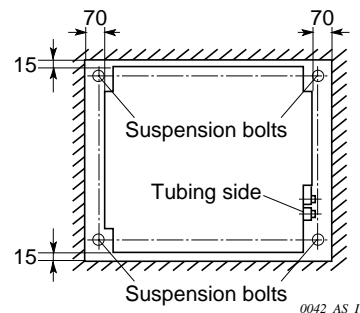

Fig. 3-8
- (3) The distance between the unit and the ceiling opening, and the distance between the bottom face of the ceiling material and the bottom face of the flange of the unit should follow the dimensions given in Fig. 3-8 and 3-9.